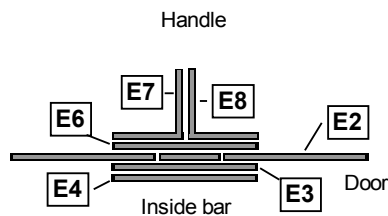

Fig. 4: Cross-section of door bar
Step 17: Stick parts 1 and 2 of the interior bar [E3 and E4, sheet 7] with their grey sides on each other accurately aligned at the edges (Fig. 4 shows a cross-section of the structure of the bar and the door).